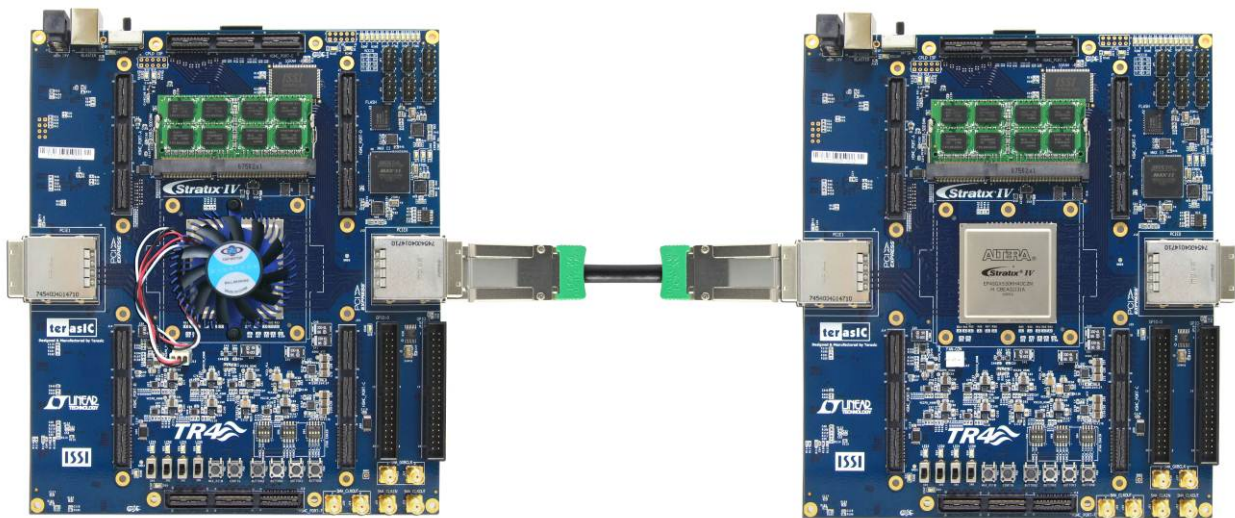

Figure 4-1 Two TR4 Boards Connected via PCIe Cable
1. Determine the PCIe connectors for linking and connect the PCIe cable to enable transmission between two TR4 boards. Figure 4-1 shows two TR4s connected through PCIe 0 port and PCIe1 port.